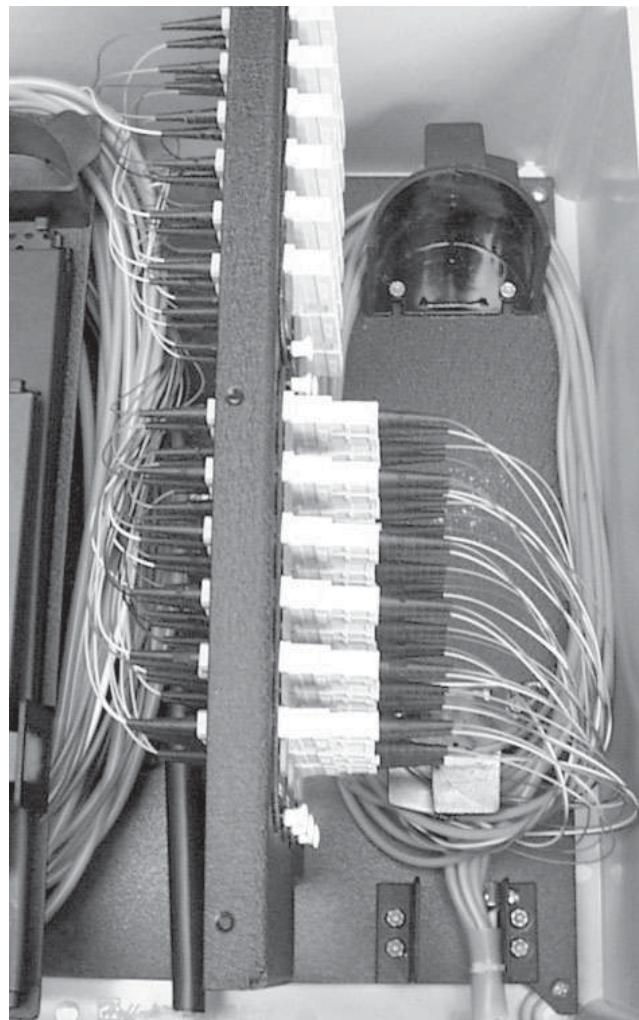

Figure 28
- 1) Route three complete loops of the subunit around the radius guides (Figure 28).
**13.4** Route cable around the guides as shown in Figure 28 and plug in connectors. Refer to the connector installation instructions in Section 10 and the fiber precautions in Section 3 to avoid damaging the cable during installation.